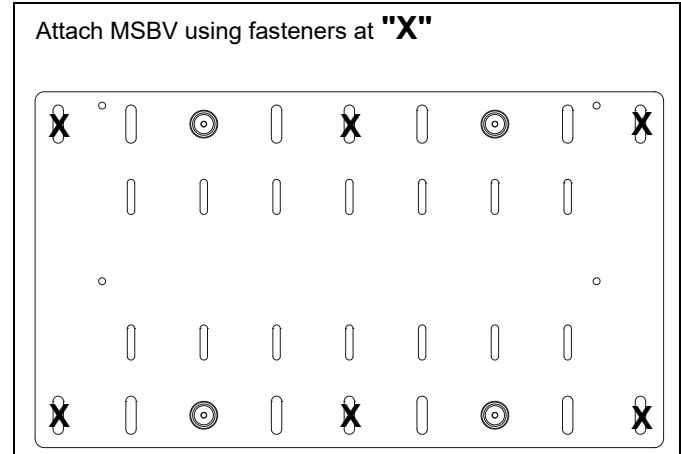

Figure 6
2. Attach the MSBV bracket (A) using the hole pattern on back of display and holes noted at "X". (See Figure 6)